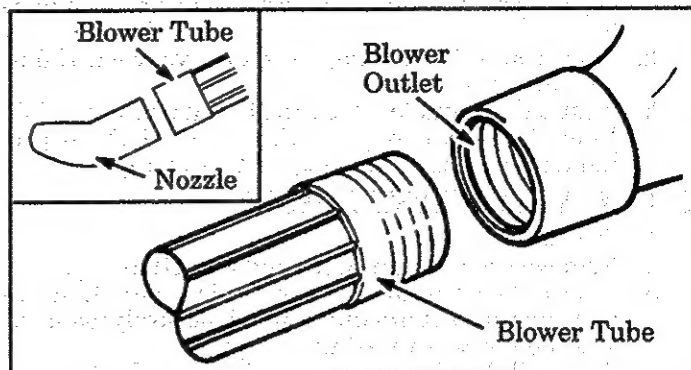
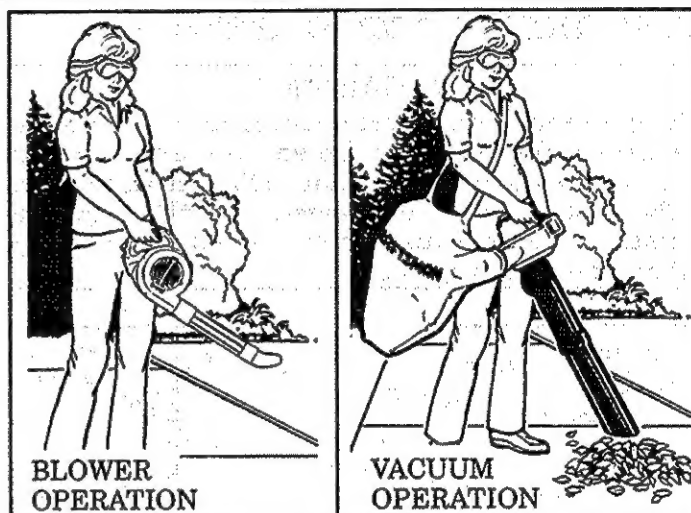

Figure 1
Figure 7
1. Insert blower tube into blower outlet. Turn blower tube clockwise until it is firmly seated. Figure 1.
2. With a slight twisting motion, slide the concentrator nozzle firmly into the end of the blower tube. Figure 1 (inset). The fully assembled unit should look like the one in Figure 7.
10. **Use the correct operating position.** Figure 7. Do not overreach or use from unstable surfaces such as ladders, trees, steep slopes, roof tops, etc. Keep firm footing and balance at all times.